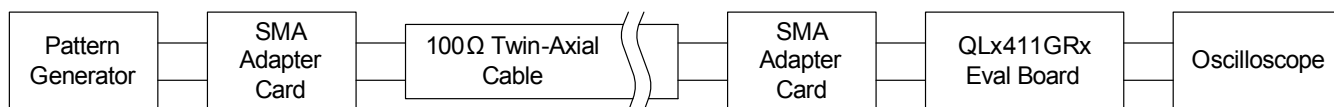
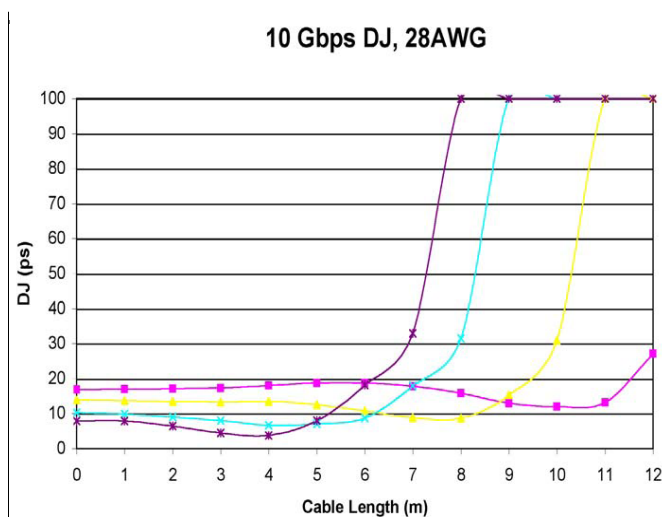

FIGURE 1. DEVICE CHARACTERIZATION SET UP
FIGURE 2. JITTER vs CABLE LENGTH AT 10Gb/s
Performance is measured using the test setup illustrated in Figure 1. The signal from the pattern generator is launched into the twin-ax cable using an SMA/CX4 adapter card. The chip evaluation board is connected to the output of the cable through another adapter card. The QLx411GRx output signal is then visualized on a scope to determine signal integrity parameters such as jitter (Note 7).
- Prior to the tapeout, the data in Figures 2 and 3 represents simulations approximating the conditions of setup in Figure 1, not measured data.